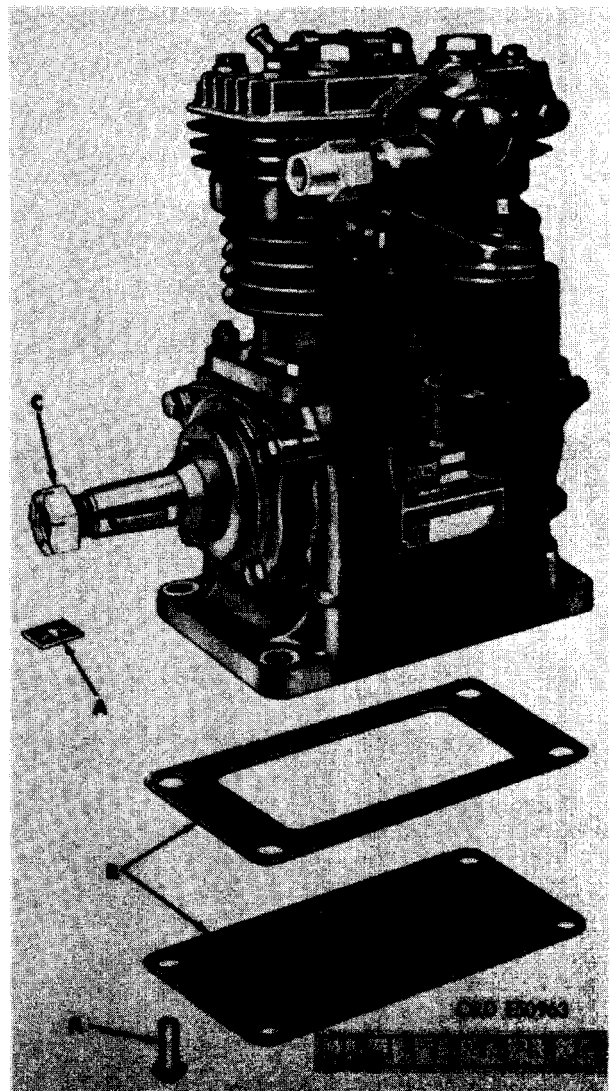

**FIGURE 84. REMOVING OR INSTALLING AIR COMPRESSOR ADJUSTING FLANGE AND PULLEY.**
- (1) Figure 84. (A) Remove air compressor pulley adjusting flange from hub on compressor pulley. (B) Remove 3/4-inch self-locking nut securing pulley to compressor shaft. (C) Remove air compressor pulley using a suitable puller.
- (1) Figure 86. (A) Remove four clips and rivets attaching replacement cover and replacement cover gasket to mounting base. (B) Remove replacement cover and gasket and install cover and gasket on unserviceable compressor. (C) Remove 3/4-inch slotted nut from end of compressor crankshaft and install pulley by reversing sequence of instructions which accompany figure 84.